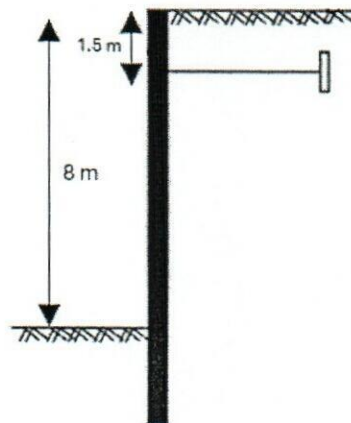

Figure Q 3.1
- (b) An anchored sheet pile wall retains soil of height 8m. Figure Q 3.1. The piles having a total length of 12 m. the soil has a density of 18.5 kN/m^3 and an angle of friction 30° . The surface of the retained side is level with the top of the wall. Anchor rods are at 1.5 m from the surface and are spaced at 3 m apart horizontally. Neglecting the friction of the surface of the piling and using the free earth support method, determine: